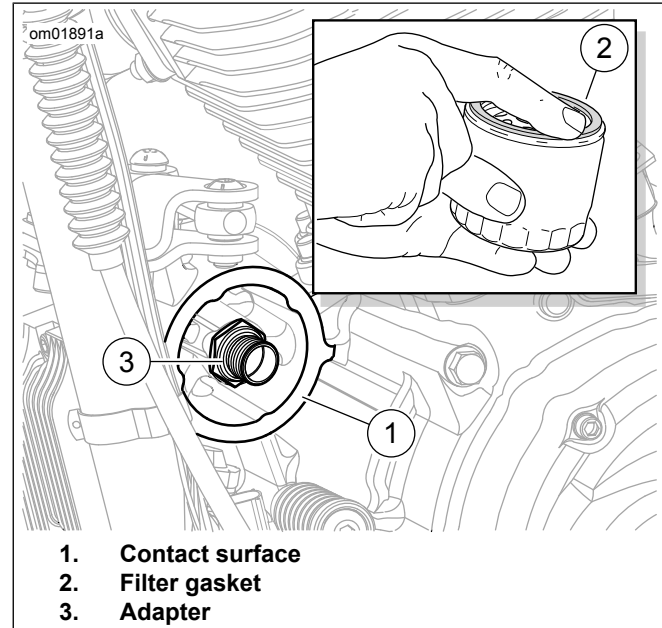

Figure 44. Installing Oil Filter
3. See Figure 44. Wipe oil filter mount contact surface (1) with a clean cloth. Surface must be smooth and free of debris or old gasket material.
4. Apply a thin film of oil to contact surface of the oil filter mount and filter gasket (2) of **new** oil filter.